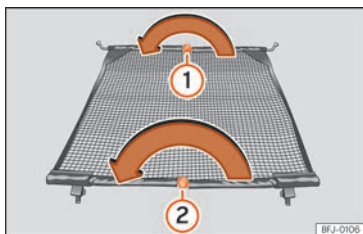

Fig. 152 Folding in the net partition.
- Press on the release button »» **Fig. 152** ① and bend the cross rod in the direction of the arrow with the button pressed.
- Press on the release button »» **Fig. 152** ② and bend the cross rod in the direction of the arrow with the button pressed.